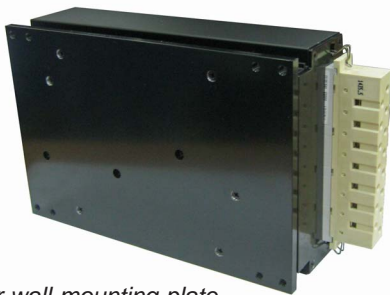

Fig. 46
- Chassis or wall-mounting plate K02 (HZZ01213-G) for models with option B1. Mating connector (HZZ00107-G) with screw terminals; see fig. 46